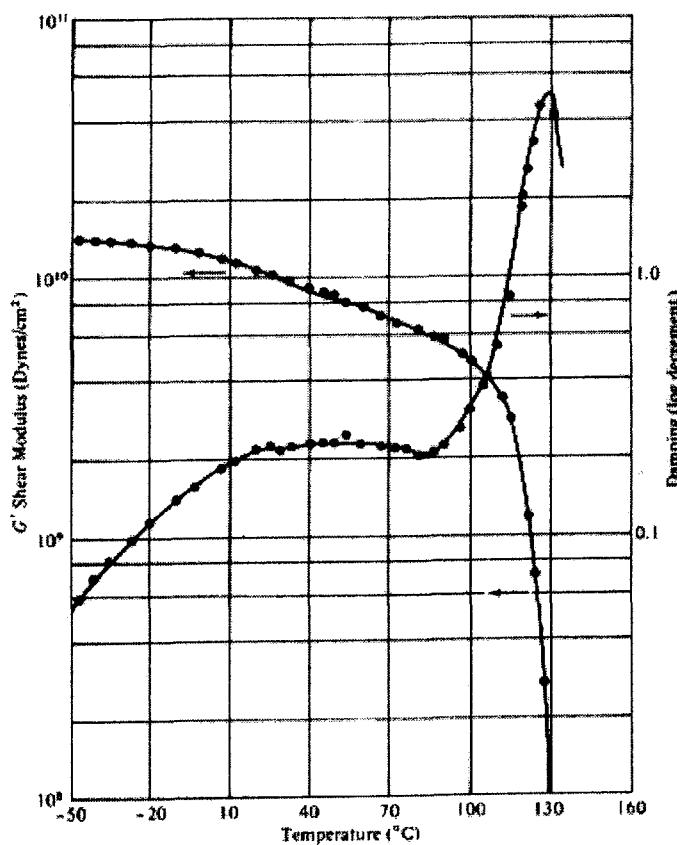

Figure 1: Dynamic mechanical properties of polymethyl methacrylate.
7. [a] The damping peak for polymethyl methacrylate in Figure 1 is located at 130°C. The data were obtained with a torsion pendulum at about 1 cycle/s. At what temperature would the peak be located if measurements were made at 500 cycles/s? For polymethyl methacrylate, $T_g = 105^\circ\text{C}$.